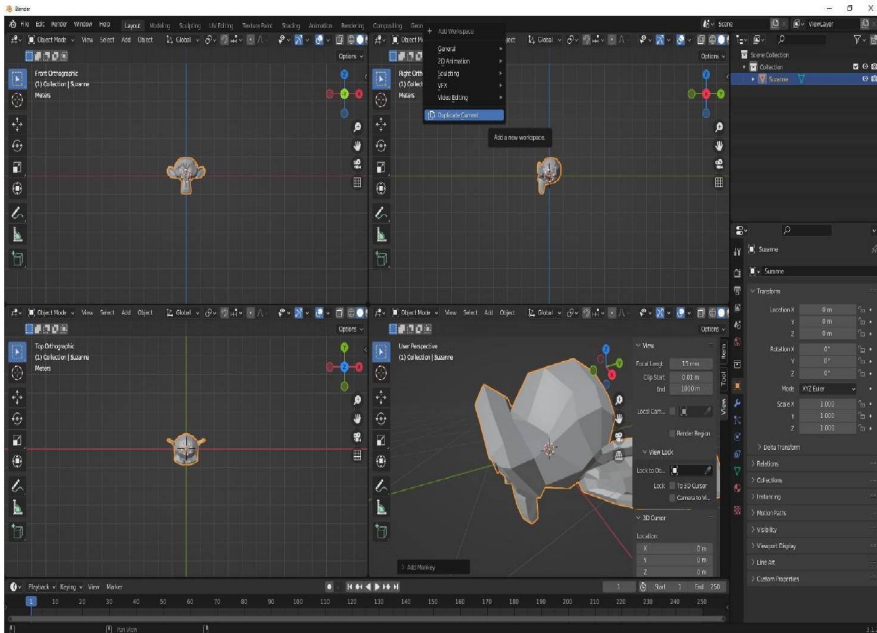

Figure 2.23: Creating a New Workspace from the current layout
3. At the top of the Blender application, click the plus-sign at the right end of the **Workspace** tabs, and choose **Duplicate Current** as shown in *Figure 2.23*: